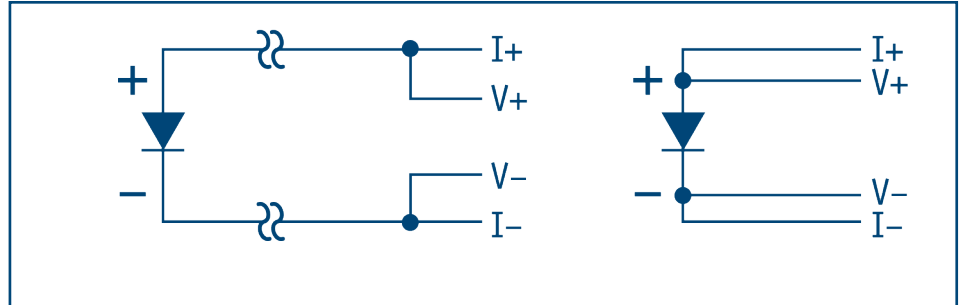

Figure 3 – 2-Lead versus 4-Lead Measurements
**2-lead measurement scheme**—The leads used to measure the voltage are also the current carrying leads. The resulting voltage measured at the instrument is the sum of the temperature sensor voltage and the voltage drop across the 2 leads (see Figure 3).
**4-lead measurement scheme**—The current is confined to one pair of current leads with the sensor voltage measured across the voltage leads (see Figure 3).
- Strip the insulation from the connecting wires by scraping delicately with a razor blade, fine sand paper, or steel wool. Phosphor bronze or manganin wire, in sizes 32 or 36 AWG, is commonly used as the connecting lead wire. These wires have low thermal conductivity and high resistivity, which help minimize the heat flow through the leads. Typical wire insulation is polyvinyl formal (Formvar®) or polyimide (ML). Formvar® insulation has better mechanical properties such as abrasion resistance and flexibility. Polyimide insulation has better resistance to chemical solvents, heat, and radiation.
The leads used to measure the voltage are also the current carrying leads. The resulting voltage measured at the instrument is the sum of the temperature sensor voltage and the voltage drop within the two current leads (see Figure 3).
The current is confined to one pair of current leads with the sensor voltage measured across the voltage leads (see Figure 3).